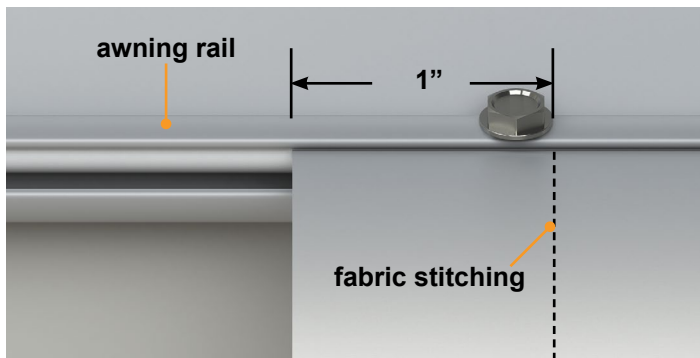

Fig.7
2. Secure the fabric in the awning rail no more than 1" inside the edge of the fabric on both ends using a #6 x 1/2" hex head screw. Install the screw down through the awning rail into the fabric and the polycord (**Fig.7**).